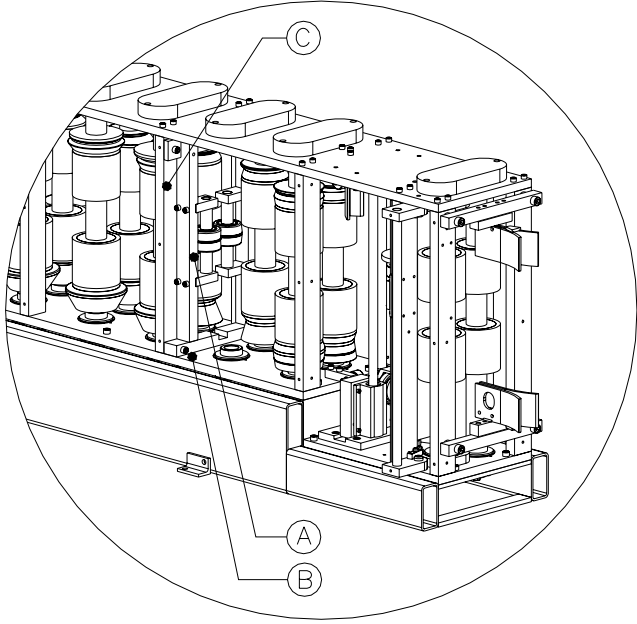

Fig. 4 Stiffening Rib Location
B.	Locate the mounting location for the Stiffening Rib Assembly (see Fig. 4 below). The two vertical framing members in the machine (Fig. 4 Item C - operator side and motor side) will have threaded holes located near the top and bottom of each member.